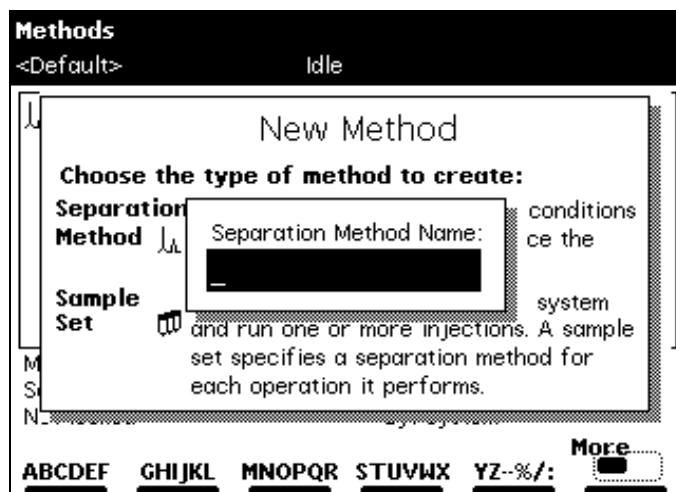

Figure 5-3 Separation Method Name Dialog Box
- Press the chromatogram icon (separation method) screen key. The Separation Method Name dialog box appears (Figure 5-3).